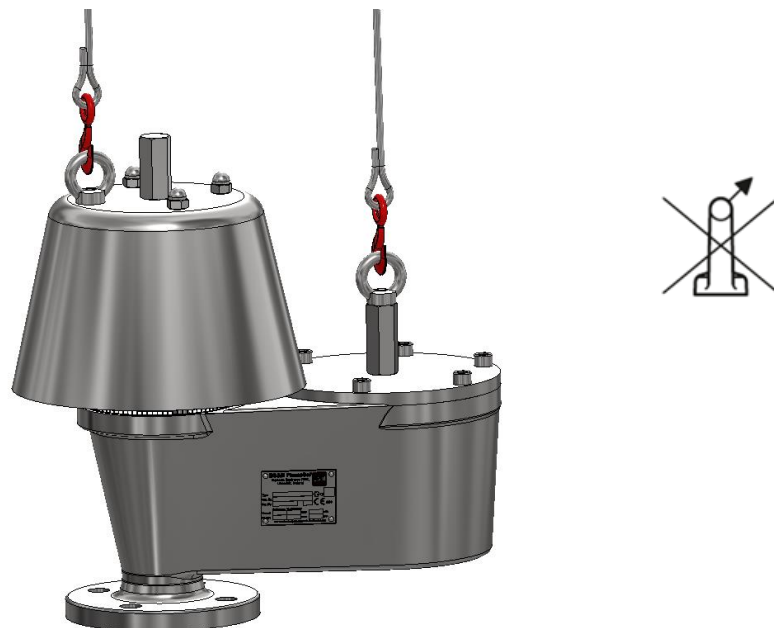

Figure 1 – Lifting
The product shall be lifted by the provided Lifting Eyes, as illustrated in Figure 1.
Caution: Lifting shall be done vertically as illustrated in Figure 1, avoiding lateral forces against the guideposts (13) as lateral forces can deform and/or break them.